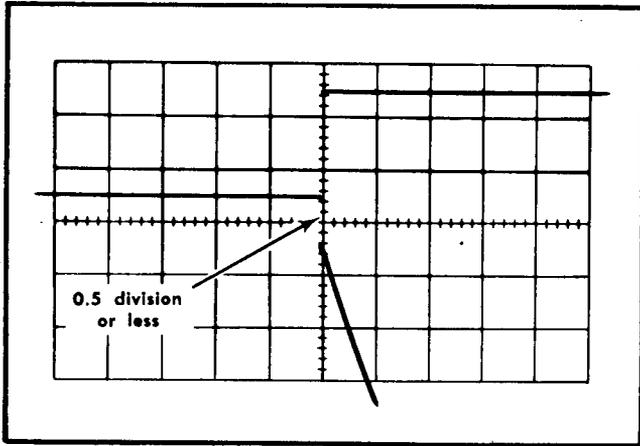

Fig. 5-28. Typical CRT display showing correct calibrator repetition rate.
- CHECK-Separation between Calibrator waveform leading edge and the marker leading edge not to exceed 0.5 division (0.5% accuracy; see Fig. 5-28).